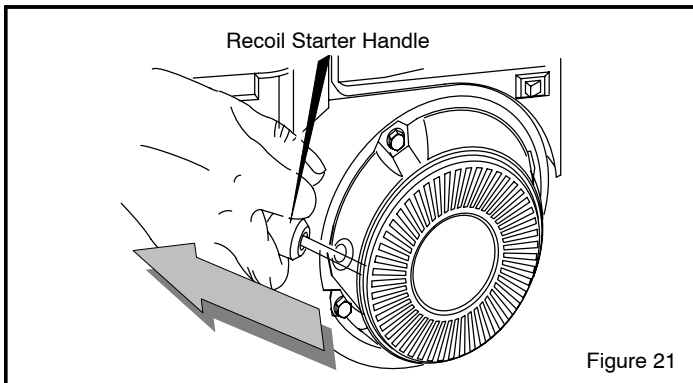

Figure 21
6. **(RECOIL START)** Slowly pull the **recoil starter handle** until resistance is felt and then pull rapidly to start the engine (Figure 21). Do not allow the **recoil starter handle** to snap back. Slowly return the **recoil starter handle**.